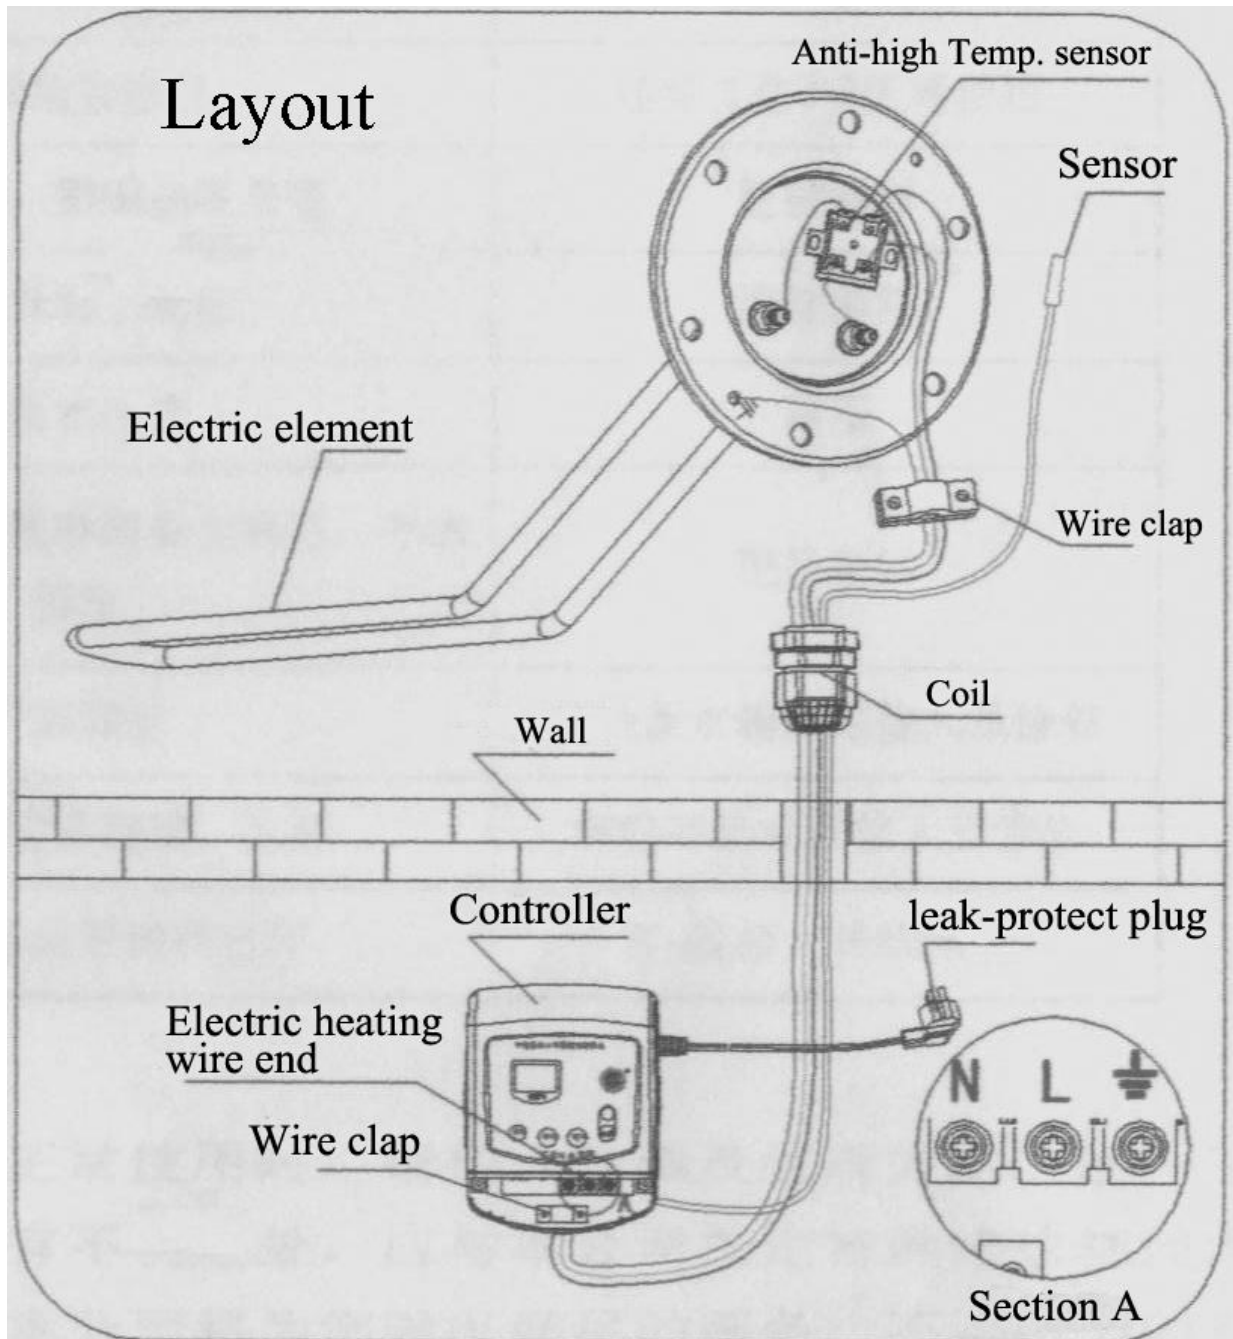
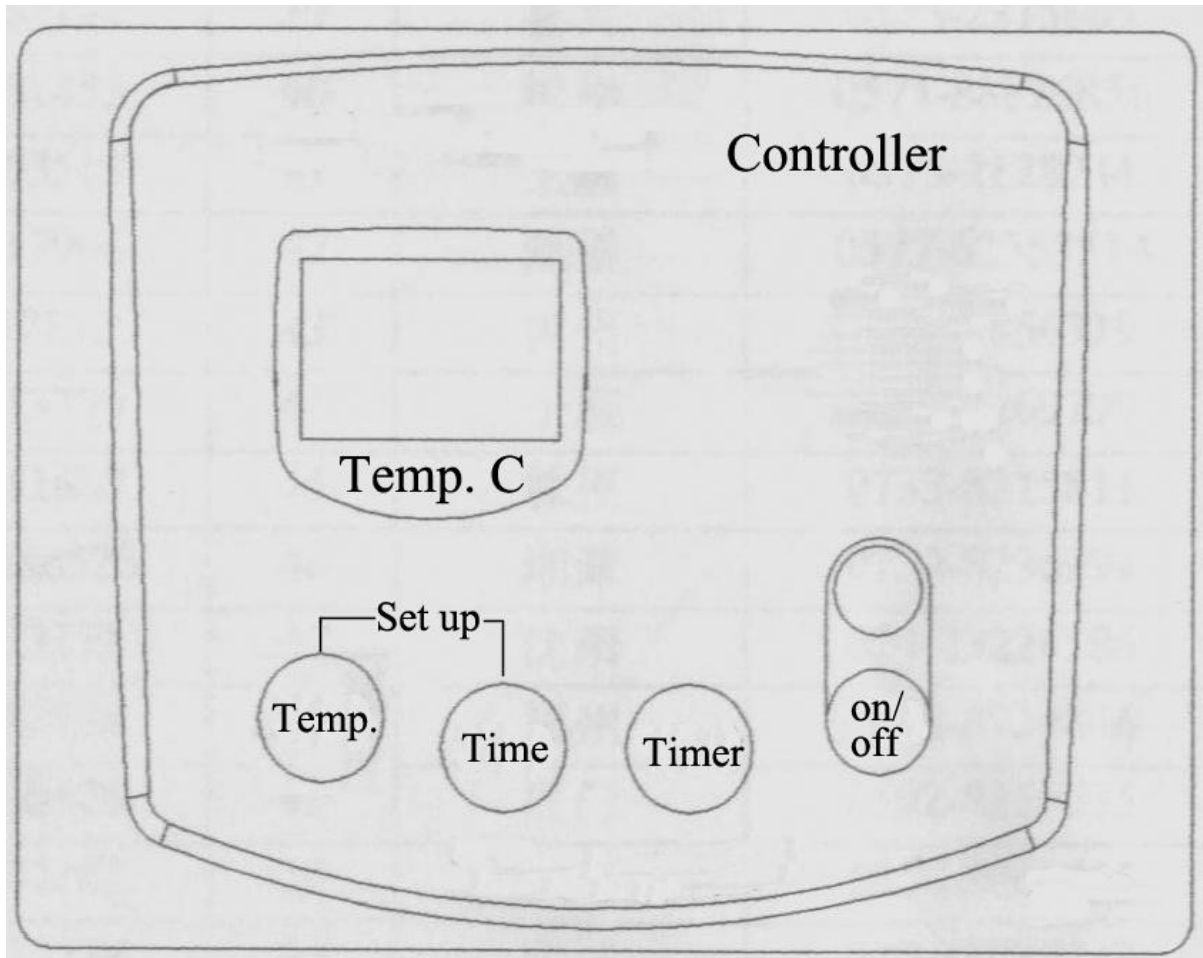

Fig.11
Fig.12
- ③ Use tri-wire plug of safe protection, and the rated current value of socket \geq 10A
- ④ Safe measures should be taken and layout to specification.
- ⑤ Installing micro controller (Fig.11) Details see the manual of Micro Controller. Layout sees Fig.11 and Fig.12